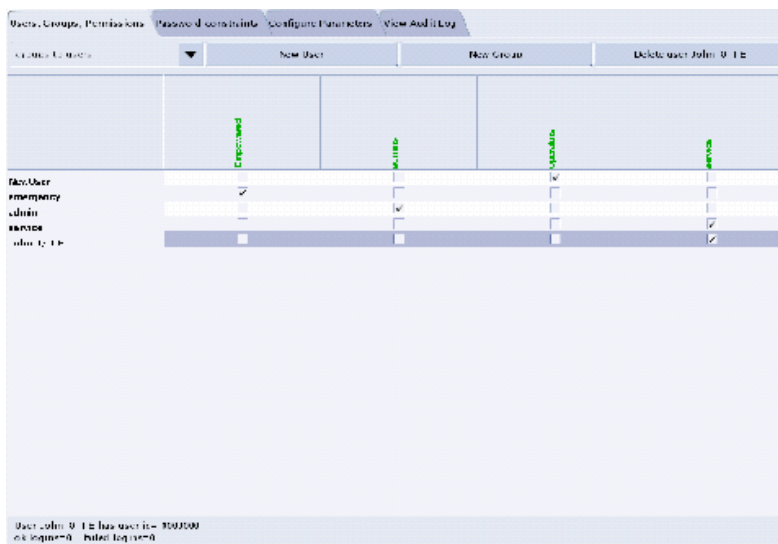

Figure 10-15 Using the User, Groups, Permissions screen
- 8.) If an account for a service user has been added, select groups to users from the pull-down menu, and assign the service user to group Service by selecting the check-box under Service in the row of the new user name, e.g., John_Q_FE (see Figure 10-15).